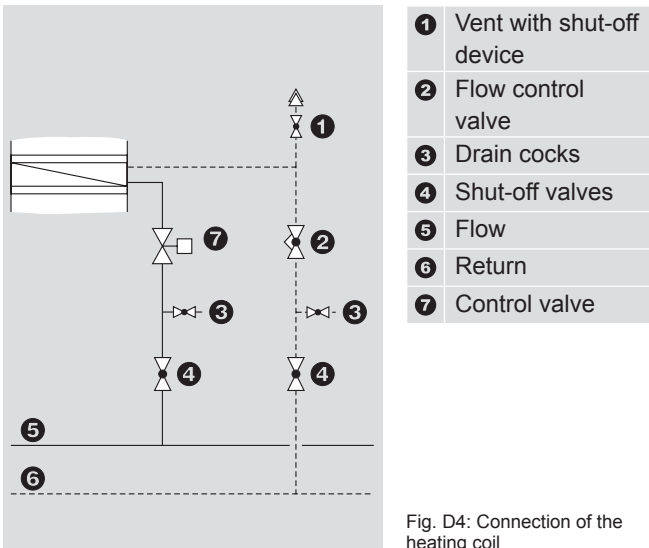

Fig. D4: Connection of the heating coil
- Connect the heating coils in accordance with Fig. D4. Depending on local circumstances it has to be checked whether compensators for the feed and return lines for compensation of the linear expansion and/or articulated connections are required for the units.